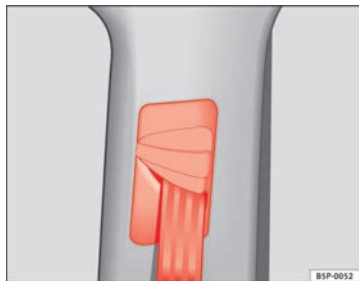

Fig. 17 Location of the belt height adjuster
- Press the upper part of the shoulder belt guide and hold it in this position ⇒ fig. 17.